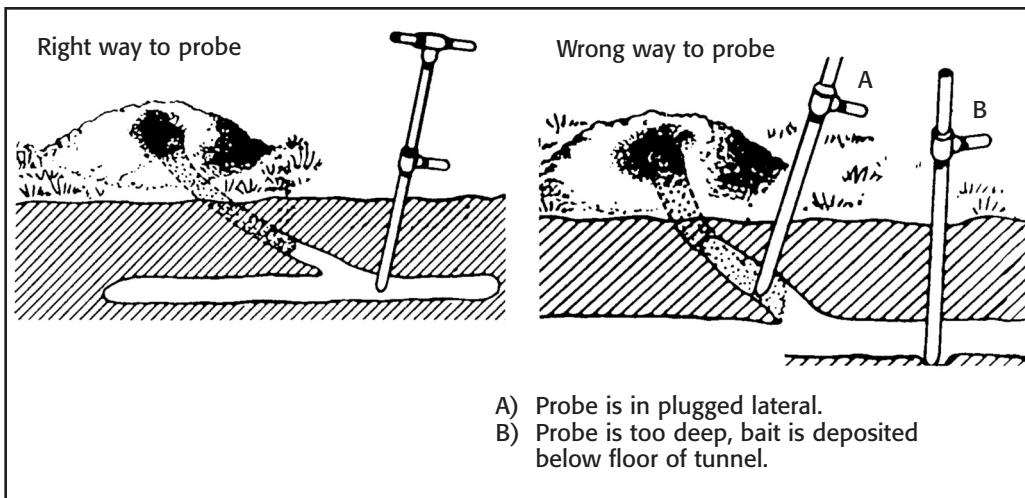

Figure 3. Right way and wrong way to probe.
2. Locate the main runway by probing the soil with a bluntly pointed probe, 6 to 8 inches from the mound on the side where the horse-shoe-like depression is found (Fig. 3). When the probe drops into the runway, the release of ground friction will be felt.